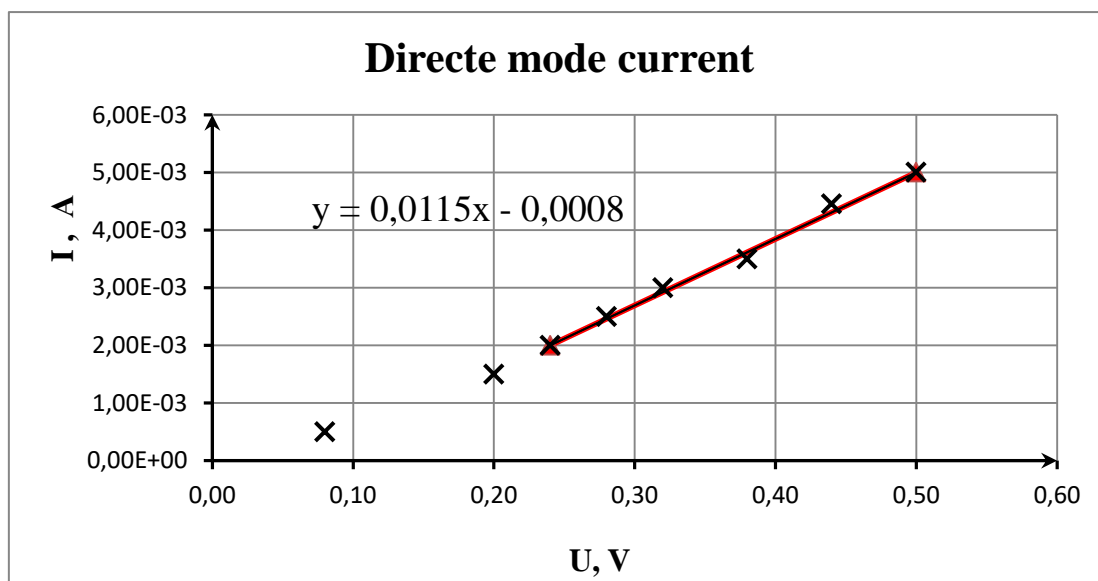

Fig. 6.2.5
2. For linear section CVC set a straight line equation (grad) in Excel (Fig. 6.2.5, example) and by gradient determine internal resistance semiconductor diod in direct and reverse modes of his work: